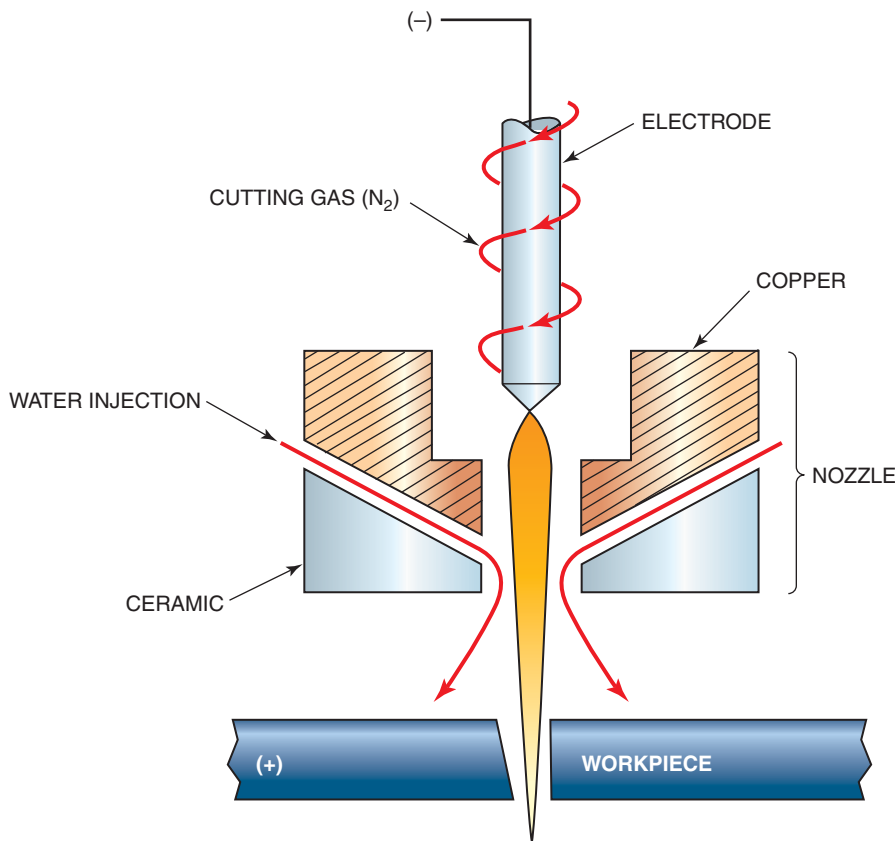

Figure 7.23 Water injection plasma arc cutting
- water injection—The injection of water into the plasma stream as it leaves the nozzle tip is not the same as the use of a water shroud. Water injection into the plasma stream will increase the swirl and further concentrate the plasma. This improves the cutting quality, lengthens the life of the nozzle tip, and makes a squarer, narrower kerf, Figure 7.23.